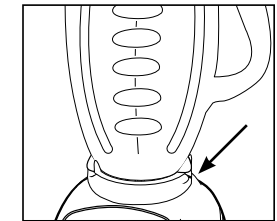

FIGURE 6
7. Line up tabs of jar with tabs on blender base. Make sure the tab of the jar on the left side is in the back of the tab of the blender base and the tab of the jar on the right side is in front of the tab of the blender base. Make sure jar is seated into position. (Figure 6)